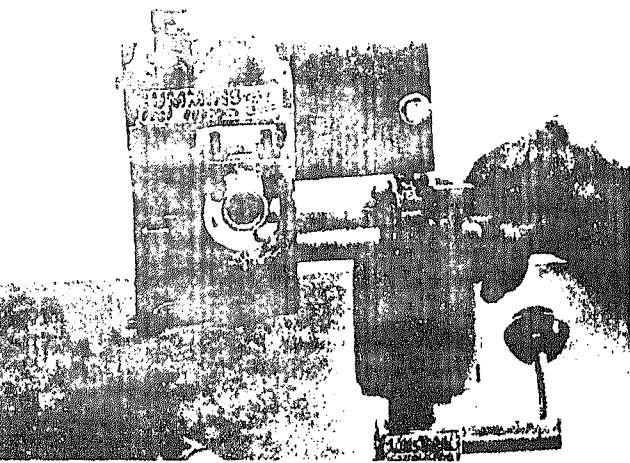

Fig. 507-2 Removing spring pack cover
2. Lift off cover and discard gasket. Fig. 507-2.